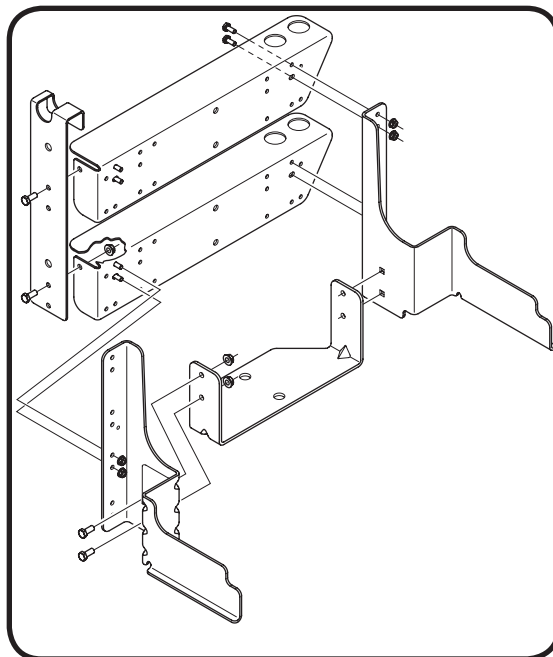

Figure 3-1
1. Assemble the mounting bracket assembly as shown in Figure 3-1.